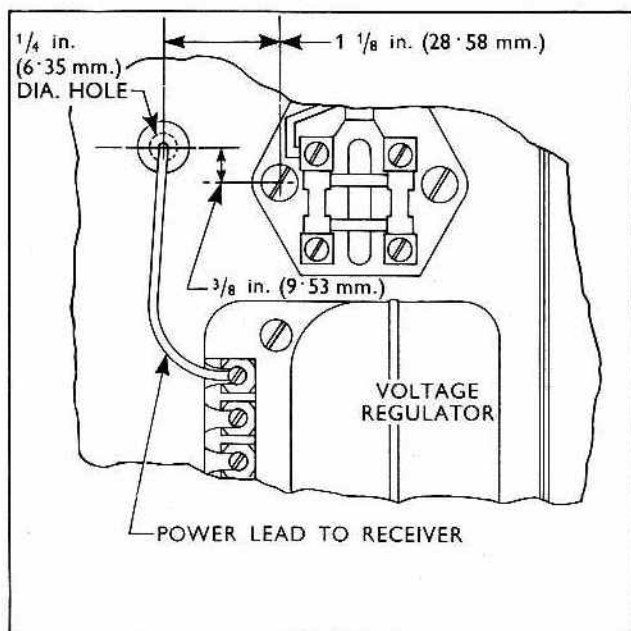

Fig. 590
- 12 Drill one hole $\frac{1}{4}$ in. (6.35 mm.) dia. for the power lead in the engine compartment panel as shown in Fig. 590, $1\frac{1}{8}$ in. (28.58 mm.) to the right of the fuse box right-hand securing screw and $\frac{3}{8}$ in. (9.525 mm.) above.